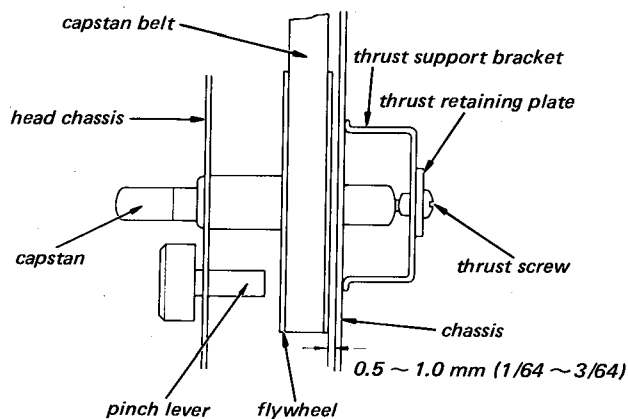

Fig. 6.
- (1) The clearance between the flywheel and the chassis should be between 0.5 and 1.0 mm ($1/64$ and $3/64$ ") as shown in Fig. 6.
- (2) If necessary, adjust by the thrust screw.
- (3) At this time the capstan should not rattle nor touch the head chassis when moved up and down by a hand. And also the flywheel should not touch the pinch lever.